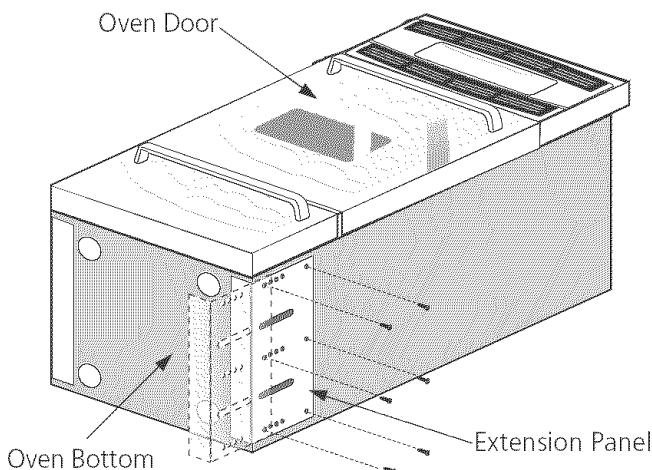

Figure 4
- Lay oven on its back. (see figure 4).
1. Height adjustment: lower the extension panel 1" (see figure 4).